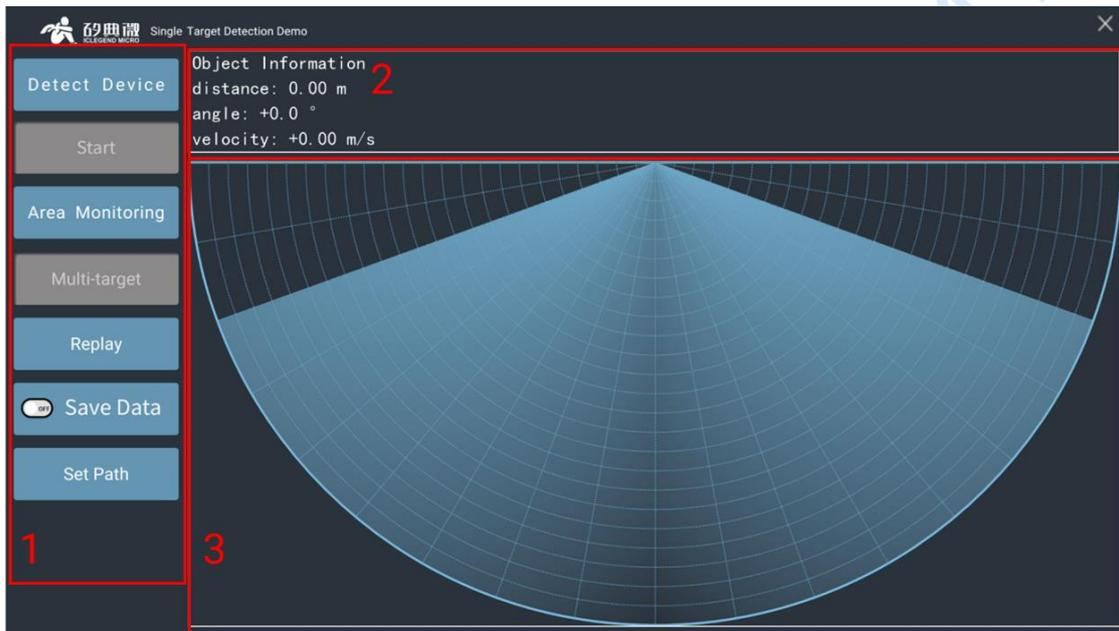

Figure 6-1 Indoor Multi-Human Tracking GUI
As shown in Figure 6-1, Indoor Multi-Human Tracking GUI can be partitioned into 3 zones: Operation Zone (1), Results Display Zone (2) and Position Display Zone (3). Functions of each zone are explained in Table 6-1.